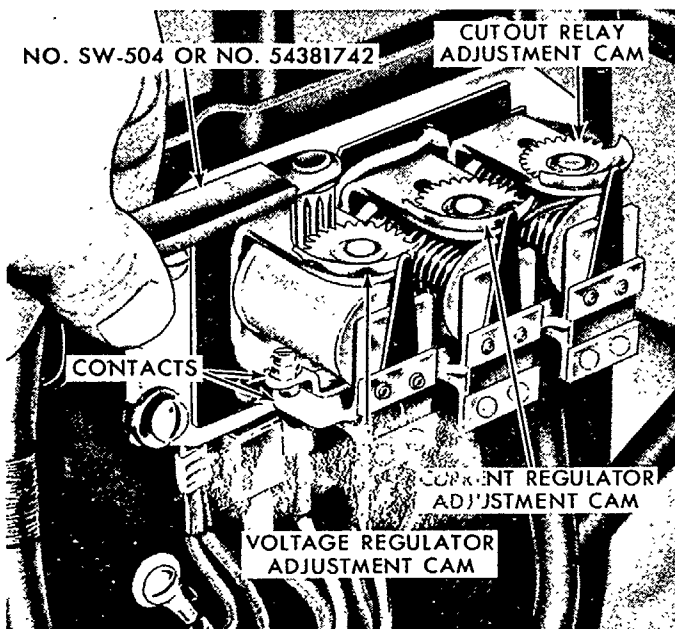

Figure 25
Voltage Adjustment: Using Generator Regulator Adjusting Tool, SW504 or 54381742, Figure 25, rotate the cam adjusting tool clockwise to increase the voltage output or counterclockwise to decrease the output. If the voltage output cannot be adjusted to within the specified limits covered on page 70, install a new generator regulator.
1. Using Generator Regulator Cam Adjusting Tool, SW504 or 54381742, rotate the current and voltage regulator adjustment cams to a point that will give minimum lift to the armature tension spring. This is done by rotating the adjusting tool counterclockwise until the tension spring rests against the end of the adjustment cam, Figure 25.
IMPORTANT: During the current regulator on-load setting, the generator must develop its maximum rated output. This can be done by using a suitable clip large enough to physically hold the contacts, Figure 25, together.
Current Adjustment: Using Generator Regulator Cam Adjusting Tool, SW504 or 54381742, Figure 25, rotate the cam adjusting tool clockwise to increase the current, or counterclockwise to decrease the current. If the current output cannot be adjusted to within the specified limits as covered on page 70, install a new generator regulator.
Cut-In Voltage Adjustment: Using Generator Regulator Cam Adjusting Tool, SW504 or 54381742, Figure 25, slowly rotate the cam adjusting tool clockwise to increase the cut-in voltage, or counterclockwise to decrease the voltage. If the voltage cannot be adjusted to within the specified limits, page 70, install a new generator regulator.